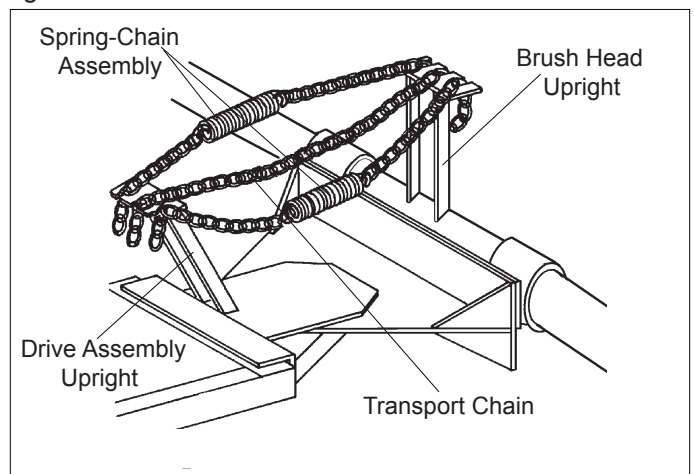

figure 6
- b. Adjust the spring-chain assembly (figure 6).
2. Tighten the transport chain (figure 6)